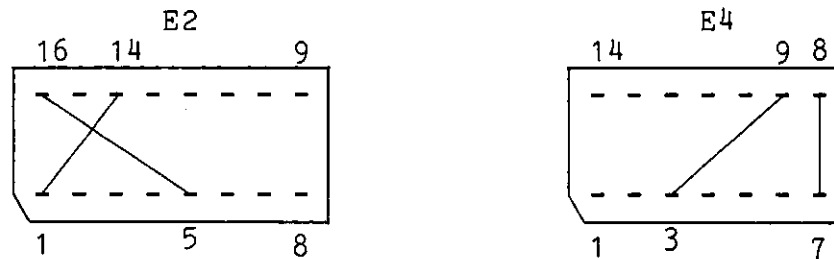

Figure 2.13. Programming of W0678-19B/GR DROOP Module Headers for AN/FPN-44/44A/45 Transmitters
(1) Jumper pin 1 to pin 14 and pin 5 to pin 16 on E2. Jumper pin 3 to pin 9 and pin 7 to pin 8 on E4. (See Figure 2.13.)